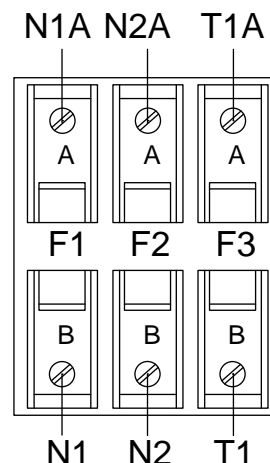

Figure 82. Transfer Switch Fuse Block
3. Remove fuse F1 and F2 from the fuse holder. (see Figure 82).
4. Connect one meter test lead to Wire N1. Connect the other meter test lead to Wire N2. Approximately 240 VAC should be measured. See Figure 82.